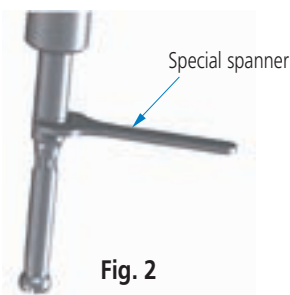

Fig. 2
1. When replacing the contact point (anvil), use the special spanner. (Fig. 2)